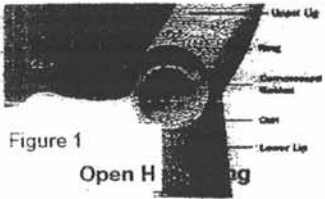

Figure 1
- Place drum head, with gasket in place as supplied, on the curl at the top of the drum body. (See Figure 1)